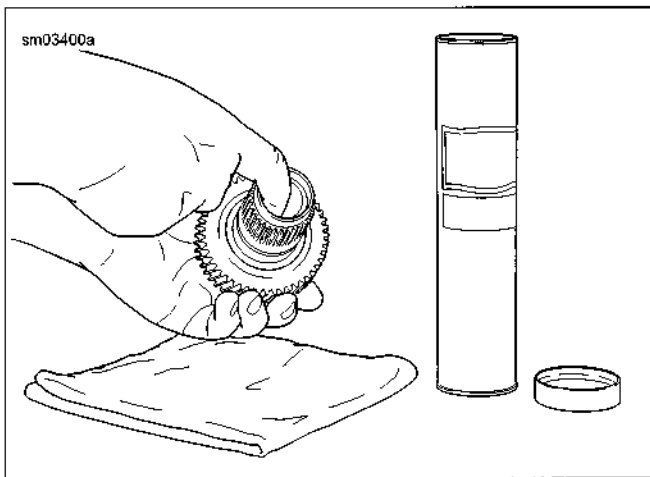

Figure 5-51. Lubricating Main Drive Gear Needle Bearing
- See Figure 5-51. Lubricate both main drive gear needle bearing assemblies with SPECIAL PURPOSE GREASE.